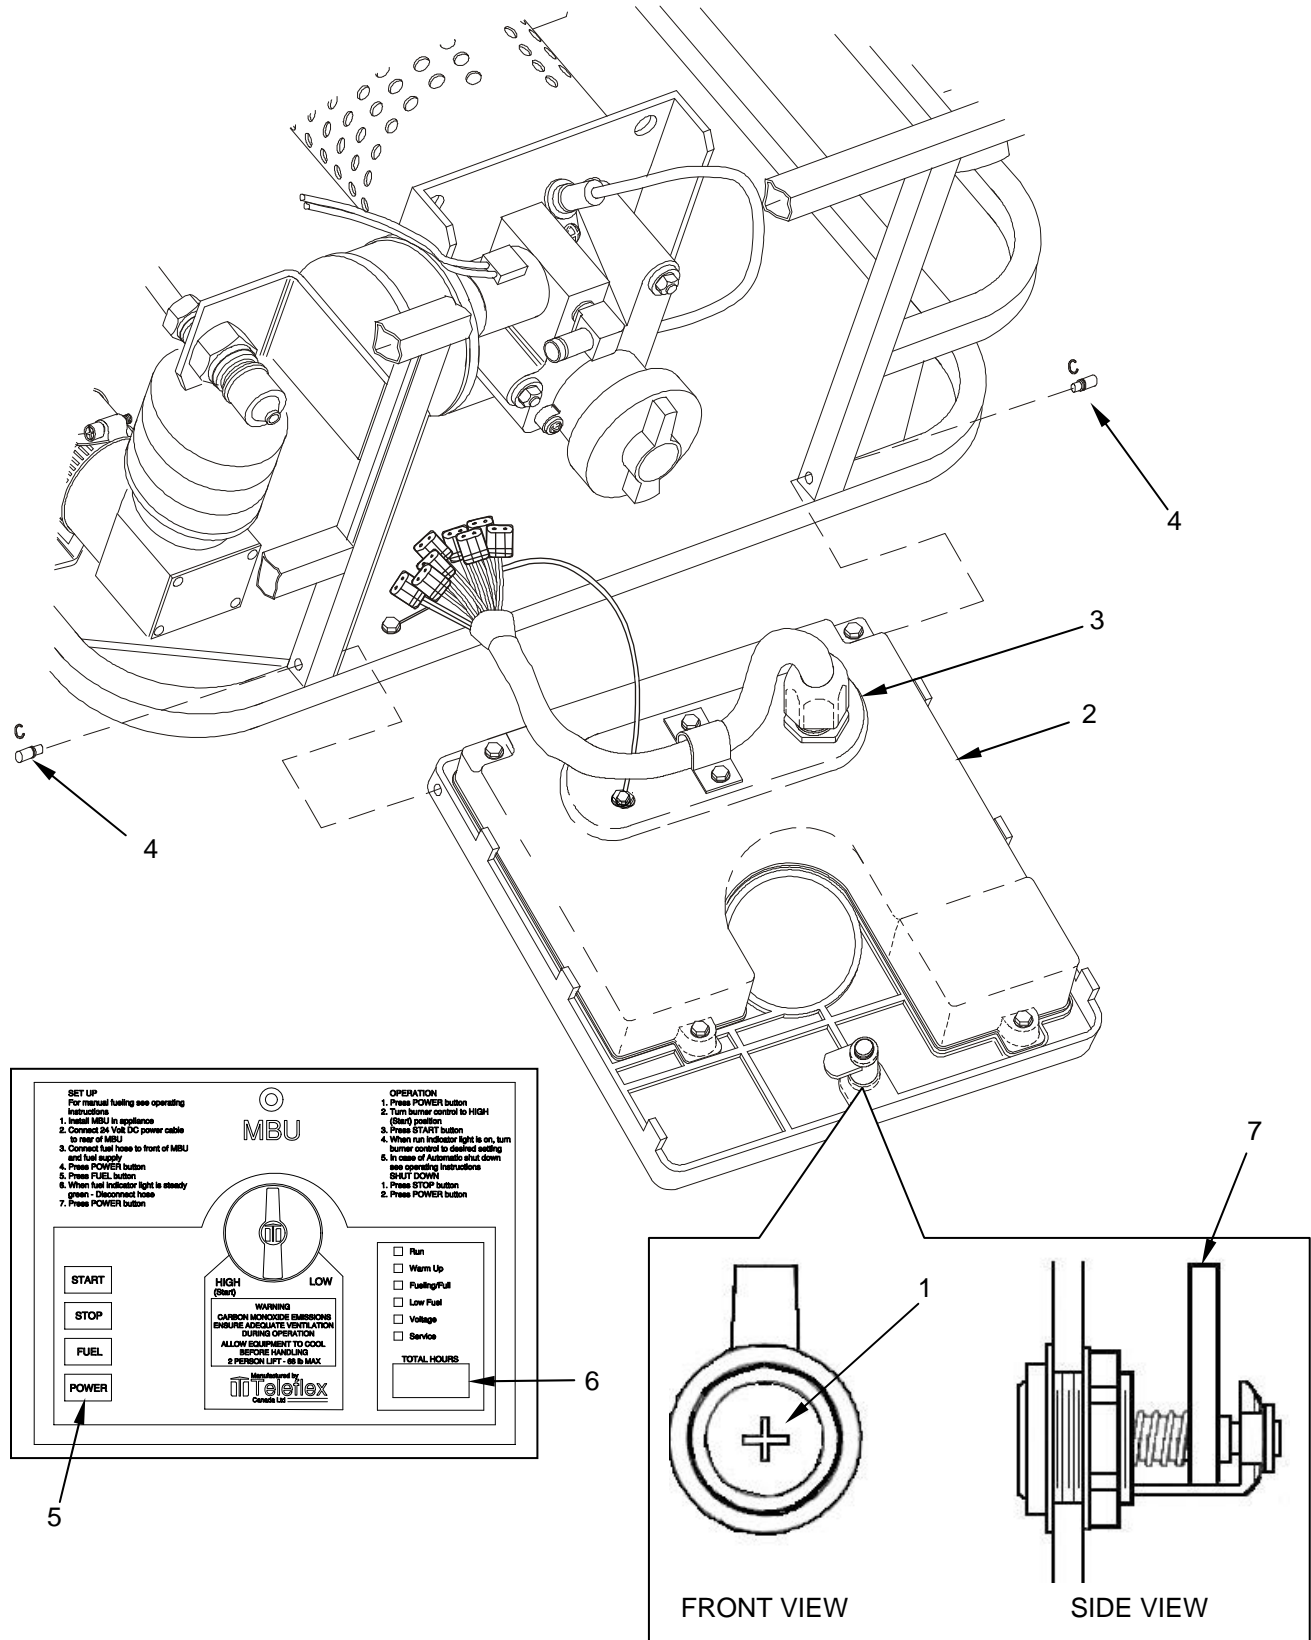

Figure 1. Inspect the Controller Assembly.
1. Inspect the cross-tip screw head on the face of the locking pawl (Figure 1, Item 1) and attempt to open with a cross-tip screwdriver. If it cannot be opened without the screwdriver slipping and the screw head is worn, the locking pawl will need to be replaced IAW the section of this WP entitled "Replace the Locking Pawl."
2. Inspect condition of controller assembly including the control panel (Figure 1, Item 2), harness and connector housing (Figure 1, Item 3), and hinge pins (Figure 1, Item 4) for damage such as a broken or cracked housing, or loose, missing or bent hinge pins, frayed insulation, loose or exposed wires or broken connector on harness. If there is visible damage which prevents normal operation of the MBU, replace the controller assembly.
4. Push the POWER Button (Figure 1, Item 5). The indicator lights will flash on and off for 3 seconds, and the hour meter (Figure 1, Item 6) background light will illuminate. The hour meter will display a series of characters before displaying the actual number of hours the MBU has been in operation. If the background light does not come on, or if the display appears faded, black, or otherwise illegible, replace the controller assembly.
6. If the pawl operates correctly but does not lock into place, inspect the pawl arm (Figure 1, Item 7) to see if it is straight or excessively worn. If the pawl arm is bent or excessively worn, the locking pawl will need to be replaced IAW the section of this WP entitled "Replace the Locking Pawl."